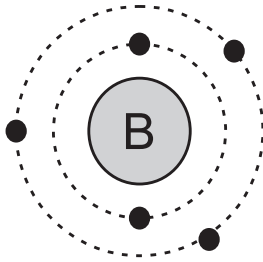

Fig. 14.12: Schematic electronic structure of boron.
**b) p-type semiconductor:** When silicon or germanium crystal is doped with a trivalent impurity such as boron, aluminium or indium, we get a p-type semiconductor. Figure 14.12 shows the schematic electronic structure of boron.